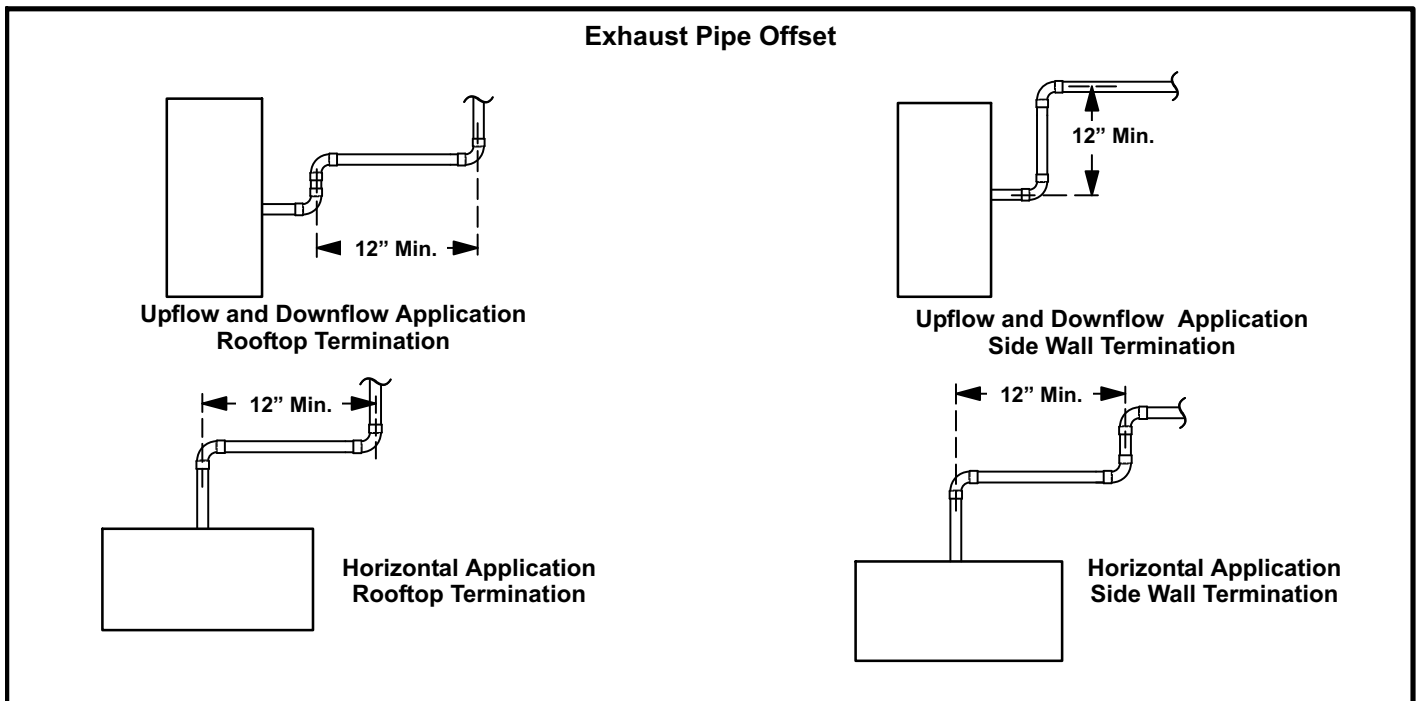

FIGURE 17
**NOTE** - The exhaust pipe should be offset a minimum of 12 inches to avoid the possibility of water droplets being released from the exhaust termination. The minimum exhaust vent length is 15 ft. Shorter exhaust vent lengths may result in the discharge of water droplets from the exhaust termination, in spite of the 12-inch vertical offset. See figure 17.